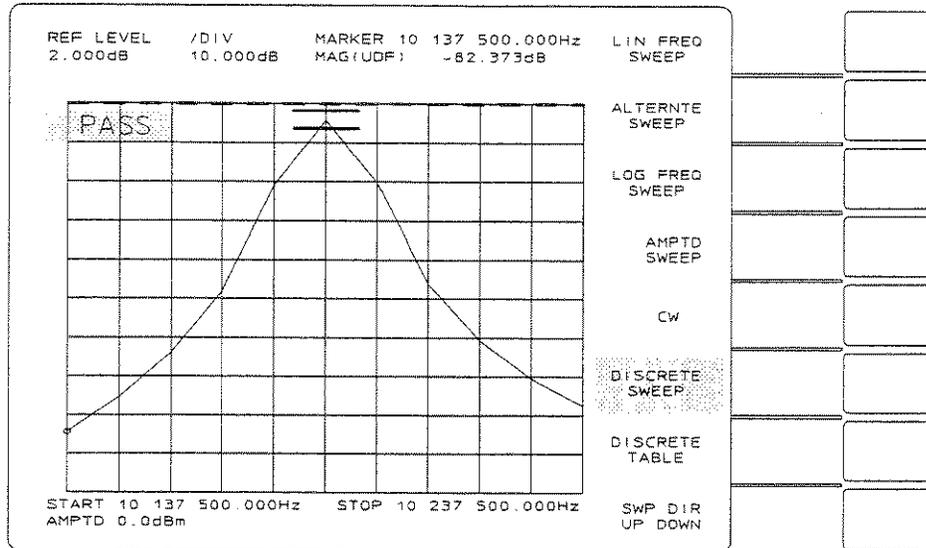

Figure 2-31B. Discrete Sweep Display
5. Press [ RETURN ] and observe the discrete sweep display as shown in figure 2-31B.